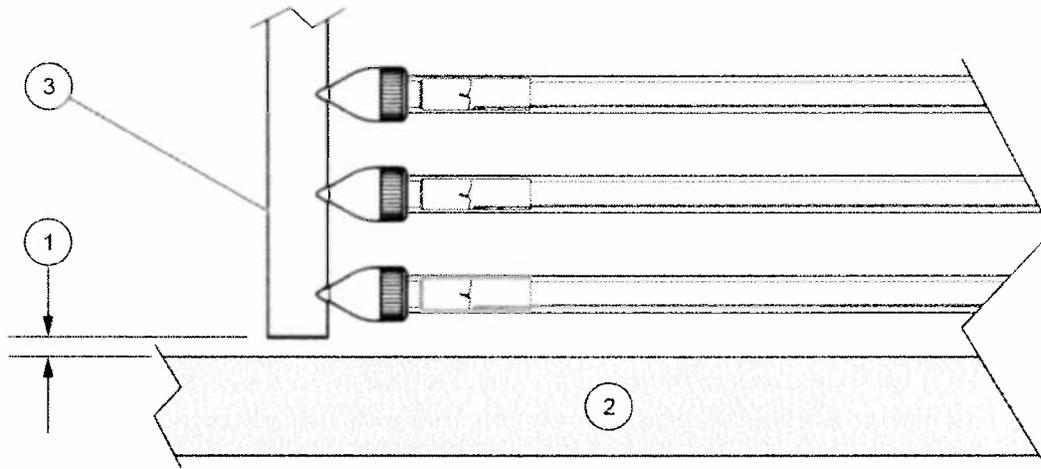

Figure 3 Spacing for UV module installation
1. Install one UV Module and adjust the rack to achieve the correct distance between the channel floor and the bottom of the module leg (Figure 3).